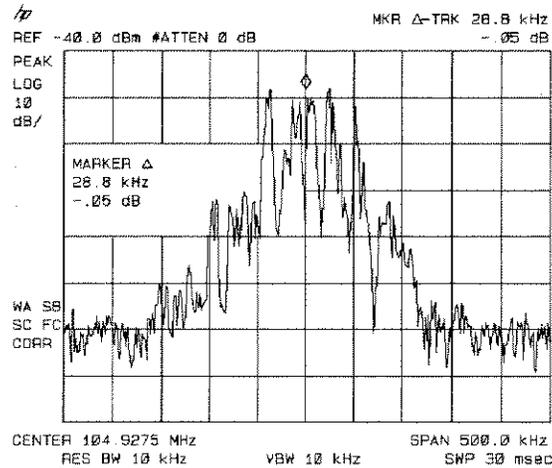

Figure 3-9. Using Marker Tracking to Track an Unstable Signal
5. The signal frequency drift can be read from the screen if both the marker track and marker delta functions are active. Press **(MKR)**, **MARKER Δ**, **(MKR FCTN)**, **MK TRACK ON OFF**; the marker readout indicates the change in frequency and amplitude as the signal drifts. (See Figure 3-9.)